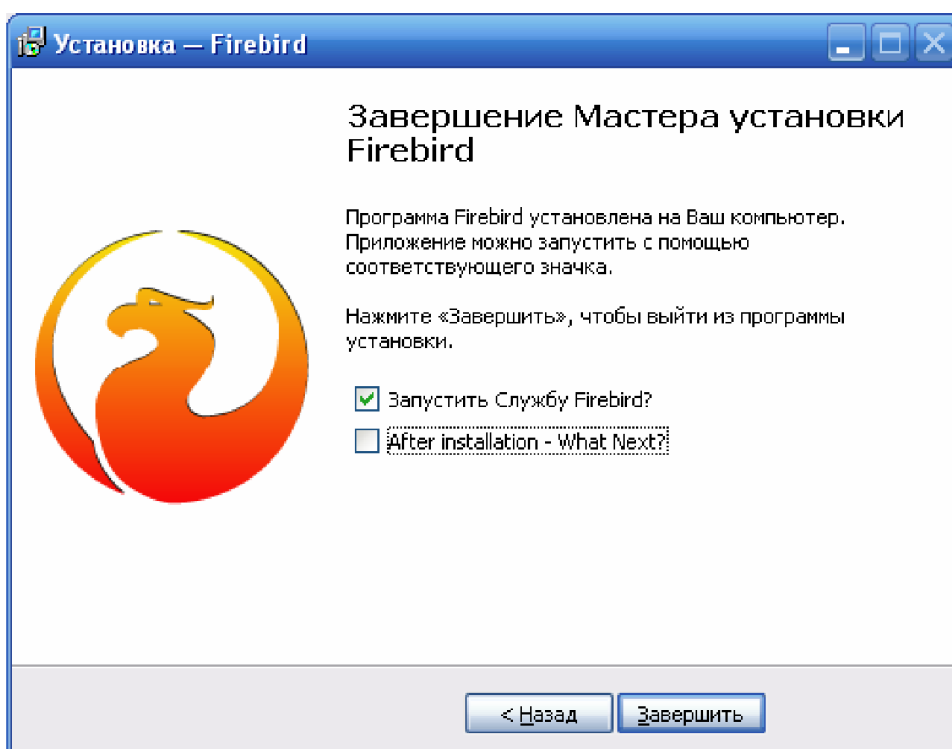

Figure 15. Installing Firebird - step 10.
Step 10 (Figure 15) is the final installation step. It displays information about the installation result and offers two tasks to complete after the wizard completes. The Firebird service should be left running, and the “After installation - What Next?” checkbox should be checked. withdraw. To complete the wizard, click the “Finish” button.